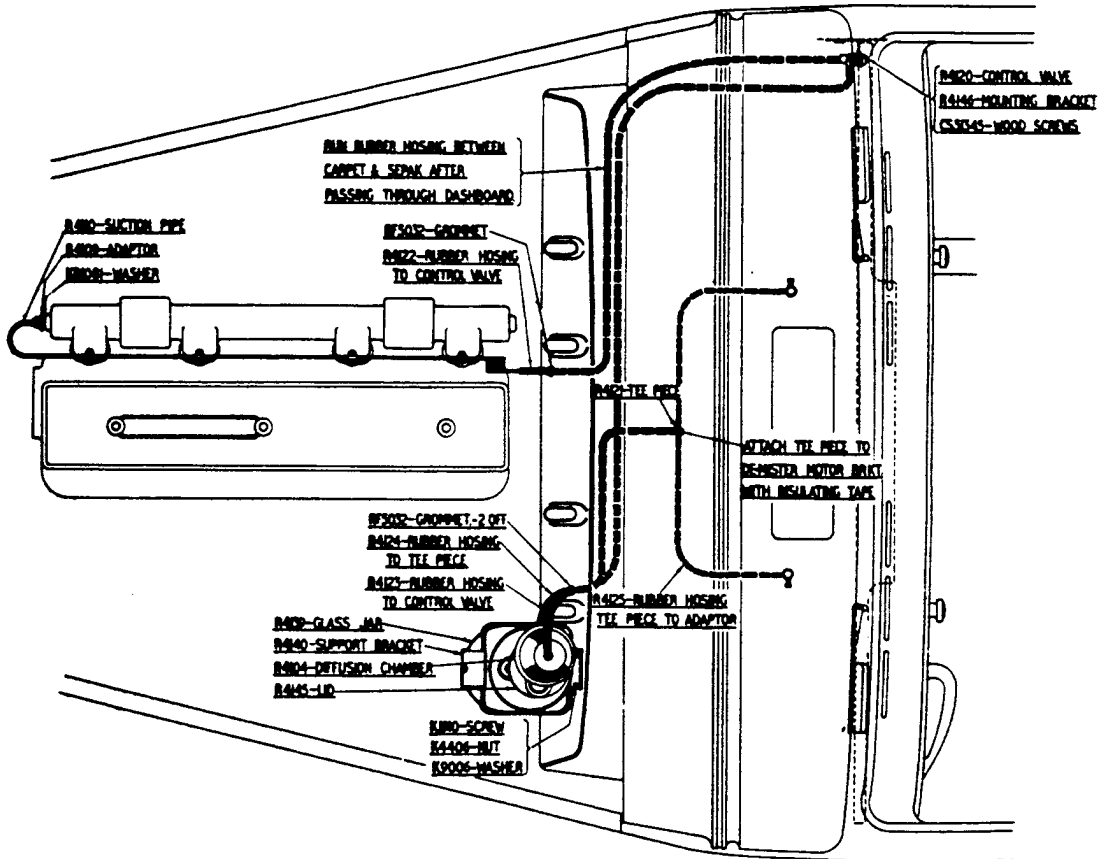

FIG. 7.
7. Install the various lengths of rubber hosing as shown in Fig. 7:-